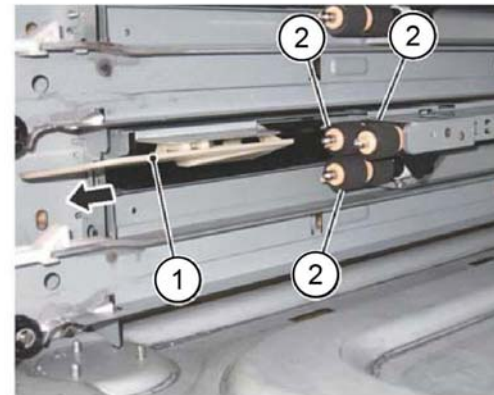

Figure 1 Roll removal
4. Remove the tray 2, 3 or 4 feed, retard and nudger rolls, Figure 1:
- a. Slide the chute (1) forwards.
- b. Release the clip, then remove the tray 2, 3 or 4 feed, retard and nudger rolls (2).